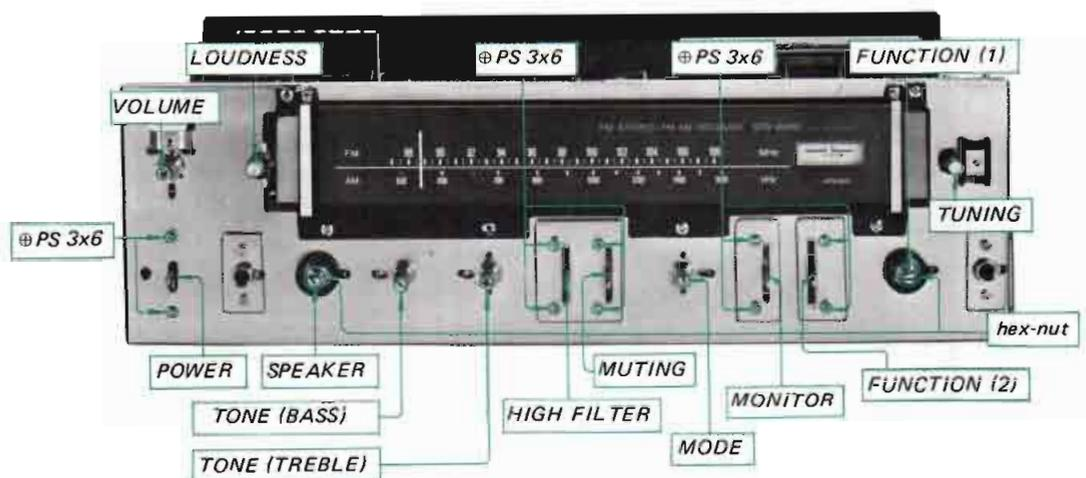

Fig. 2-15. Control and switch replacement
Prepare for replacing any of the controls or switches by removing the top cover and front panel as described in Procedures 2-3 and 2-4. Refer to Fig. 2-15.
1. Remove the two screws (\oplus PS 3x6) securing switches to the front subchassis as shown in Fig. 2-15.
2. Remove the hex nuts that secure the switches to the front-subchassis as shown in Fig. 2-15.